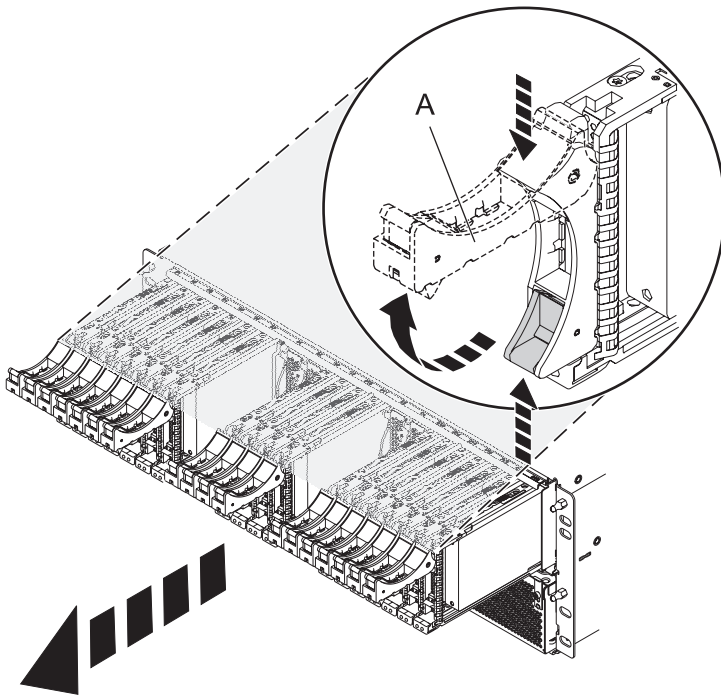

Figure 61. Removing the drives from the backplane
4. Remove the drives and fillers as shown in Figure 61 on page 78.
- a. Squeeze the latch of the drive and pull the handle (A) toward you to release the drive.